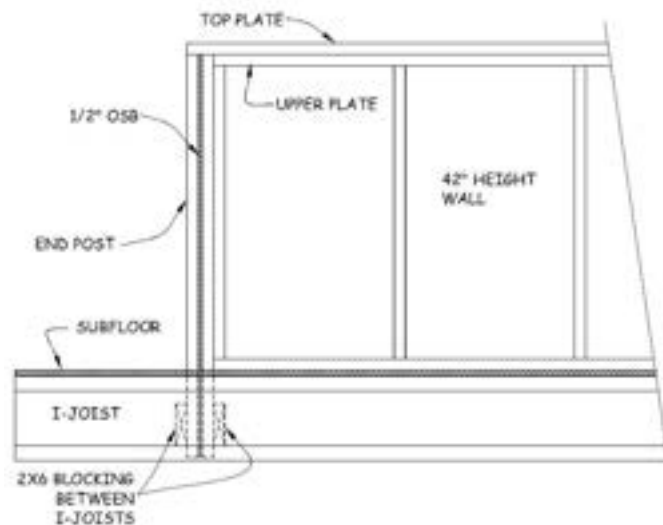

Figure 5-6. 42” Height Wall With Short Post.
- Beneath the sub-floor (i.e., in the basement) create blocking for the post using two 2x6 pieces positioned vertically to the floor joists, one on each side of the post. These blocking pieces need to be tight to the post. Secure the blocking to the floor joists using 3” drywall screws on each end. Secure the post to the blocking using two 6” Timber screws through the blocking on each side (see Figure 5-6). Make certain the post above the sub-floor is plumb.